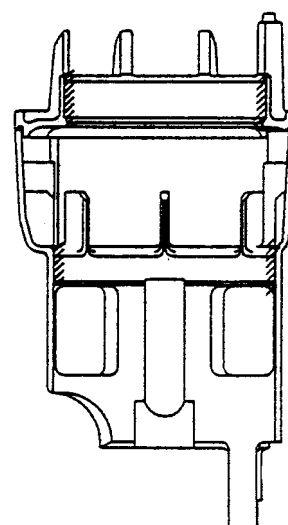

Fig. 21
- Apply oil (Gas Nailer Lubricant) (Code No. 885246) (Code No. 885546) to the areas shown in Fig. 21.